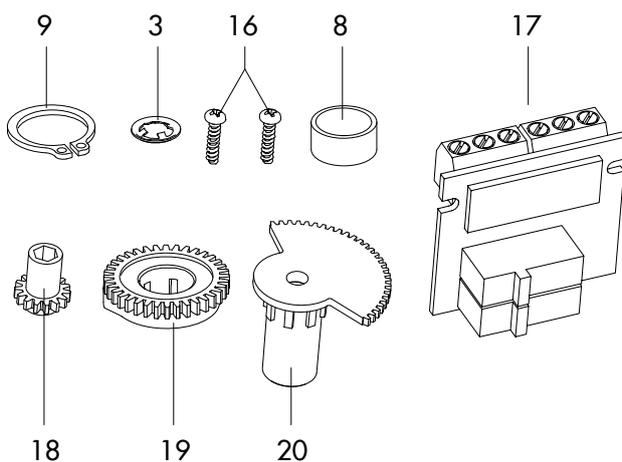

Fig. 19: Mechanical limit contacts · Retrofit kit
- Mechanical limit contacts (see Fig. 19)
3. Position the terminal board (17, see Fig. 19) at the base of the support at an approximate 45° angle with the relay pointing towards the edge of the intermediate board. Swivel the upper end of the terminal board until the board is properly engaged.